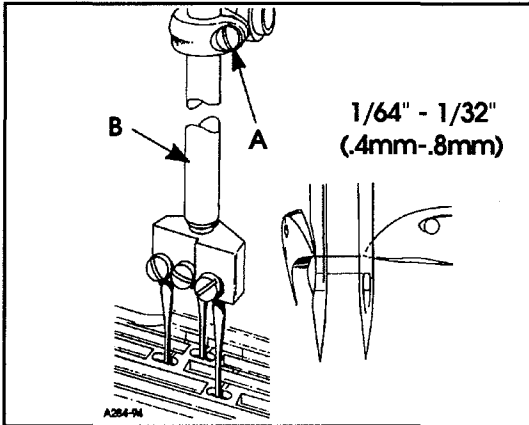

FIG. 9
The height of the needle bar is correct when the top of the needle eye is  $1/64$ " to  $1/32$ " (.4mm - .8mm) below the underside of the looper, with the looper point even with the right side of the needle. To make adjustment loosen screw (A, Fig. 9) and move needle bar (B) as required to attain dimension.